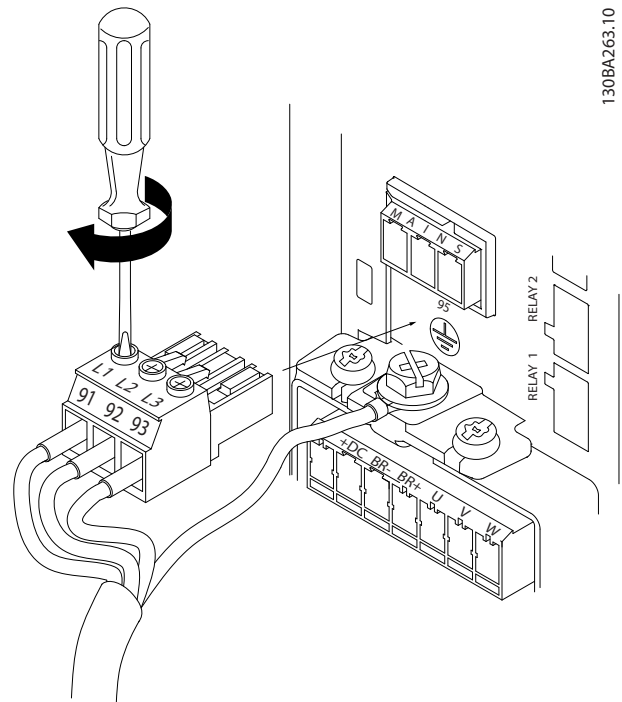

Figure 3.10 Mounting the Mains Plug
3. Insert the mains cables to the mains plug and tighten the screws as shown in *Figure 3.10*.